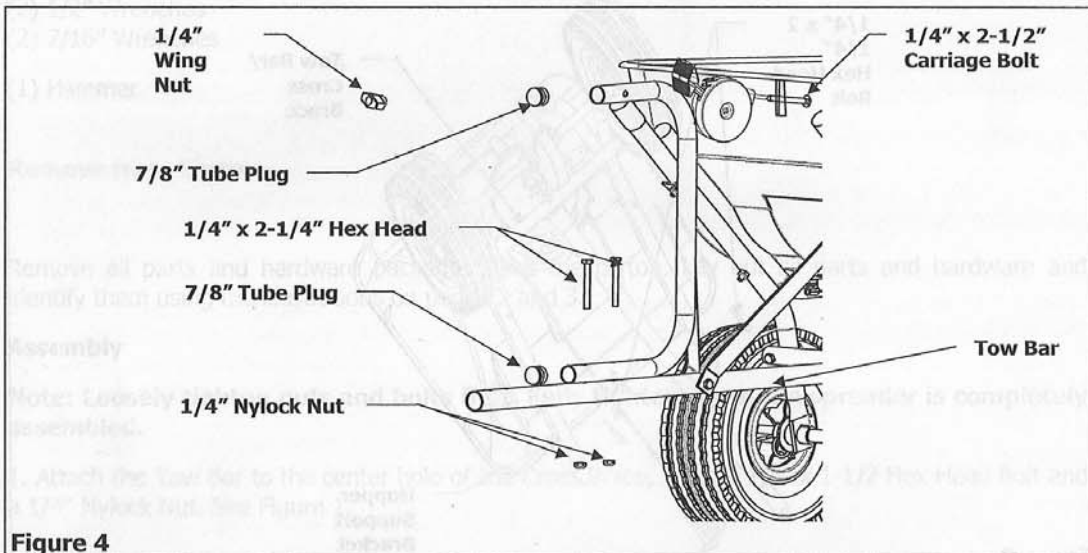

Figure 4
4. Fasten the Control Cable Holder to the top of the Tow Bar, using two 1/4" x 2-1/4" Hex Head Bolts and two 1/4" Nylock Nuts. Attach the Control Cable to the top of the Control Cable Holder using a 1/4" x 2-1/4" Carriage Bolt and secure with a 1/4" Wing Nut. Using a hammer, gently tap the two 7/8" Tube Plugs into the open ends of the Control Cable Holder Tube. See Figure 4.